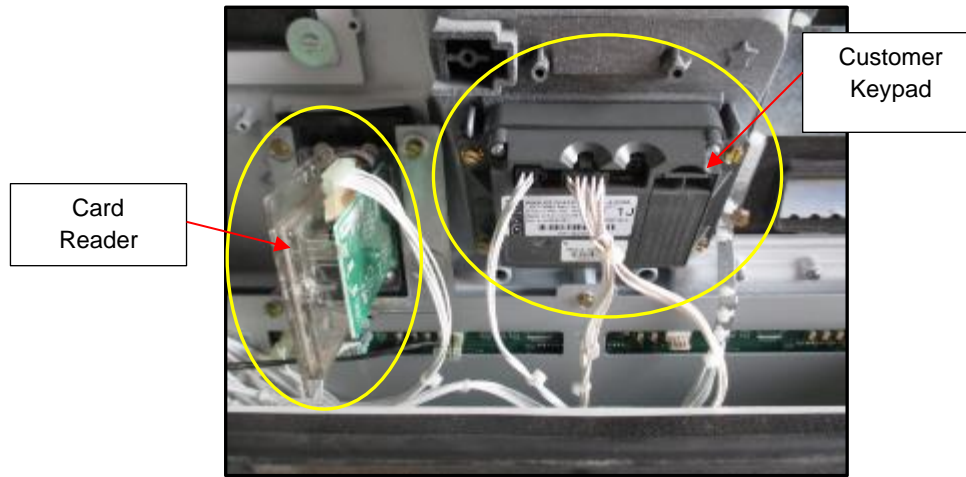

Fig 1.5a – Encore 500S Location of Card Reader and Customer Keypad
7. Unplug the Customer Keypad and Card Reader assembly cables. (Fig 1.5a and 1.5b)